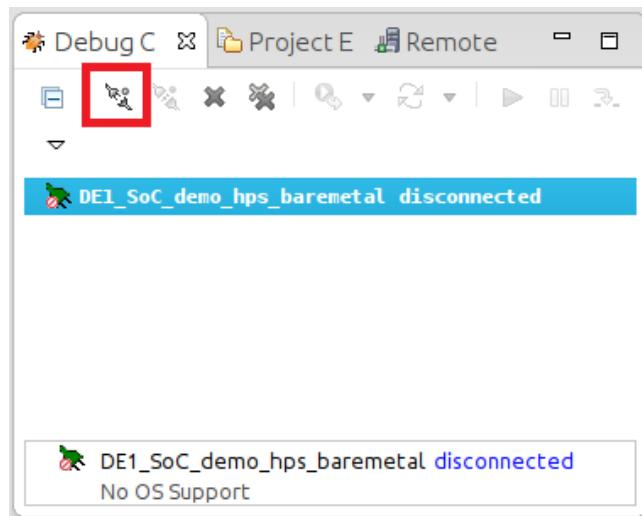

Figure 8-39. Debug Control View
23. In the "Debug Control" view, click on the "DE1_SoC_demo_hps_baremetal" entry, then click on the "Connect to Target" button, as shown on Figure 8-39. Our debug script will load and execute the preloader, then it will load and wait at our application's "main()" function.